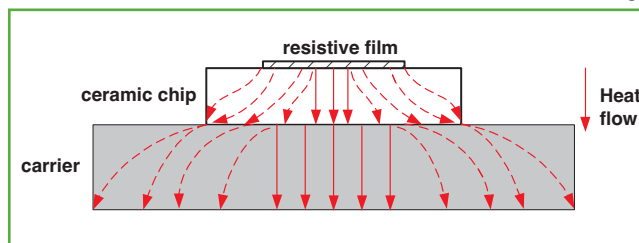
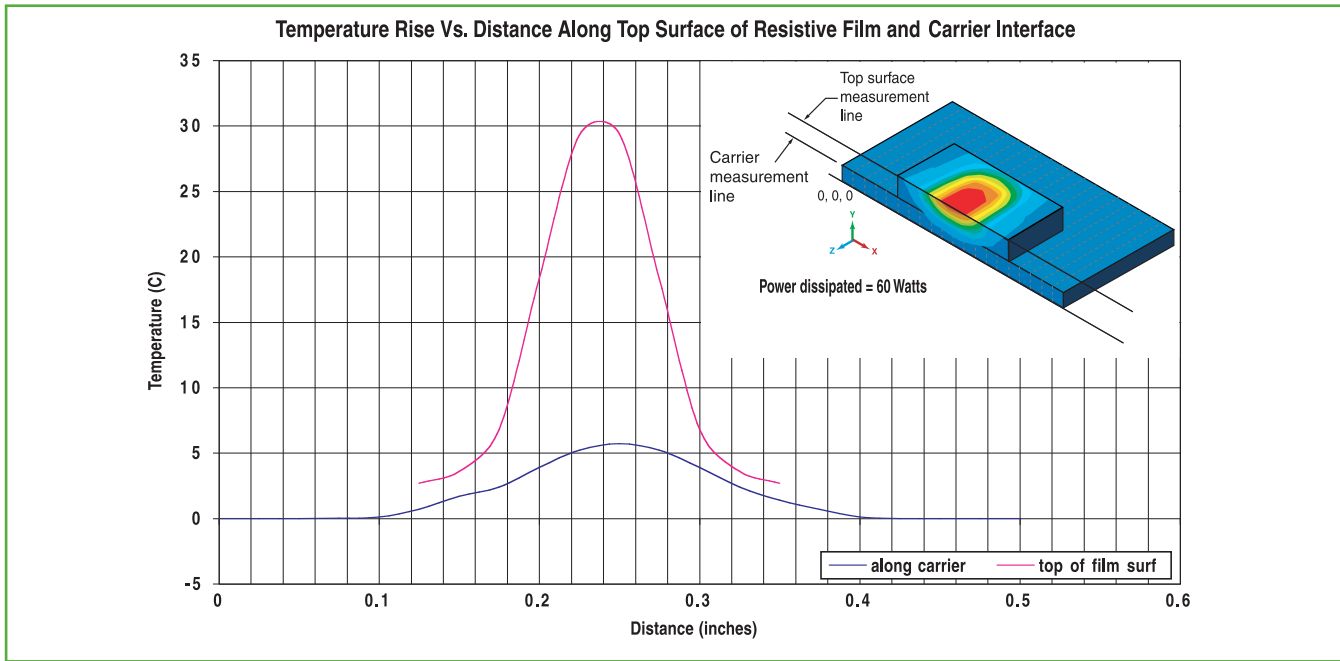
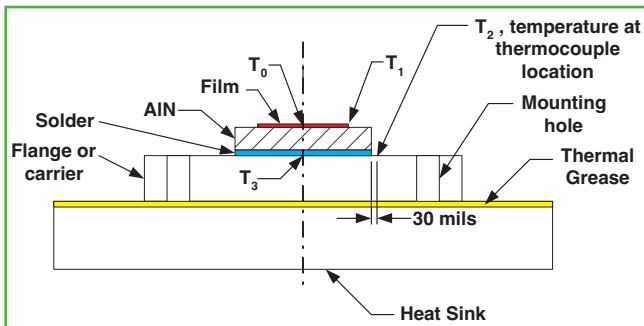

Figure 10. Heat flow around a mounted chip resistor
Figure 11: Computer simulation of isotherms around mounted chip resistor
Figure 12: Temperatures at a number of points on and around a groundplane-mounted resistive chip
Before we can do a thermal design, we must first decide on exactly what we shall mean by "power rating" for a chip device. **Figure 10** illustrates the heat flow around a mounted chip resistor. The resistive film, assumed to have constant power dissipation over its surface, behaves as an isoflux boundary, i.e., a source of uniform heat flux, rather than the isothermal boundary used in the derivation of equation (2). Were the film to completely cover the chip, the isoflux case would approach the isothermal case, but absent that condition the heat spreads out as shown.
The thermal resistance between two points is defined as the temperature difference between those points divided by the heat flow (typical units are degrees Centigrade/Watt). It is analogous to electrical resistance, with temperature corresponding to voltage and heat flux to current. **Figure 10** indicates that there is vertical as well as lateral heat flow in both the ceramic chip and the carrier it is mounted on. This implies that the system must be represented as a lattice network of thermal resistances rather than a single
thermal resistance. (The latter can characterize only the kind of one-dimensional heat flow assumed for equation (2)) **Stated alternately, the temperature will vary laterally along the film and, also, laterally along the mounting surface.** This is illustrated in Figure 11, which was made using a "Finite Element Method" (FEM) computer simulation. In actuality, a three-dimensional latticework of resistors is needed to describe a mounted resistive chip, and there is temperature variation along all three dimensions.
The above considerations bear importantly on how a chip is designed and characterized for power handling and exactly how confirming measurements are made. Figure 12 indicates temperatures at a number of points on and around a mounted chip: (a) T_0 , at the film centroid; (b) T_1 , at the film edge or corner; (c) T_3 , on the mounting surface directly under the film centroid; and (d) T_2 , on the mounting surface 30 mils away from the chip edge. We can make the following qualitative observations:
An ideal heat sink has infinite thermal conductivity and, because of this, the infinite thermal conductivity, T_2 would equal T_3 in Fig. 12. From Fig. 10 and Fig. 11, this clearly is not the case for any real mounting surface; in fact, $T_3 > T_2$.
One strategy for defining power rating might be to measure T_3 directly – or deduce it from a measurement of T_2 and a computer FEM model – and then specify performance as if an ideal heat sink were held everywhere at that temperature. By slicing a mounted resistor in half along its longitudinal axis – in Figure 12, perpendicular to the plane of the paper, down the centerline – we were able to take advantage of the lateral heat-flow symmetry to measure T_2 and T_3 for chips of several sizes and input powers. (The slice plane is an adiabatic boundary, i.e., no heat flows across it.) Results of such measurements are presented in Table 2. All chips were 40 mils thick and all measurements were made on a silver-plated high-conductivity copper mounting surface (see the table for more information).
- Next, since our carrier does not have infinite thermal conductivity, we must specify the **exact location – T_2 in Figure 12 – at which we hold the ambient temperature constant. Typically, we choose this as 30 mils from the chip edge along its lateral centerline** – an arbitrary, convenient spot at which to solder a small thermocouple.
In order of increasing accuracy (and decreasing convenience), film temperatures can be estimated by: equation (2) herein (no spreading); any one of several formulas available in the literature that include spreading; or an FEM computer program. The term "constriction resistance" is used to describe that component of thermal resistance over and above what would be produced by purely one-dimensional heat flow. Let us assume a perfectly conducting mounting surface in Figure 10, i.e., a surface along which there can be no lateral temperature variation. Then to calculate the total thermal resistance from the film to the mounting surface, one would compute the one-dimensional resistance of the chip with the film occupying its entire surface and then add the constriction resistance to account for the lateral constriction of the heat-flow. (Note, from the top down the heat spreads and so the term "spreading resistance" is frequently used, but from the bottom up the heat flow constricts.) There are several expressions available in the literature for the constriction resistance of heat sources mounted on rectangular channels ("flux tubes") with adiabatic walls, i.e., heat-producing films on chips that have no appreciable heat conduction perpendicular to their sidewalls. One formula that yields constriction resistance based on an average film temperature is⁵.